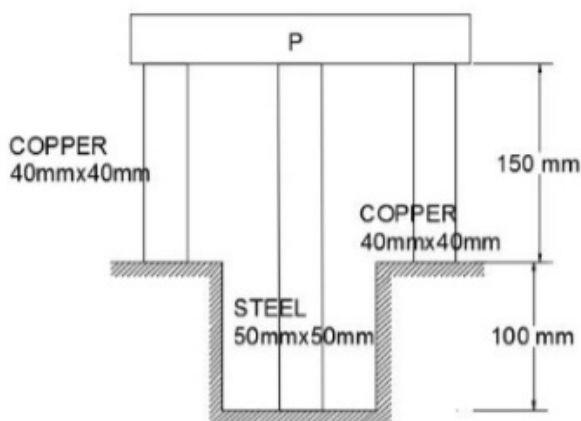

Figure 2b
- 1) Define (4)
- B) A 25 mm diameter brass rod is 750 mm long and subjected to an axial tension of 56 kN. The contraction in diameter and extension in length are found to be 0.0089 mm and 0.95 mm respectively. Determine Poisson's ratio, modulus of elasticity and change in volume of the bar. (8)
- C) Derive an equation for deformation in tapering circular bar subjected to axial load P. (8)
- 2) Derive the relationship between Young's modulus, and Shear modulus of a materials. (8)
- B) Two copper and a steel rod together support a rigid uniform bar of weight P as shown in figure 2b. Determine safe maximum value of P if the stress in steel and copper is not to exceed 120MPa and 60MPa respectively. Assume $E_S = 2 E_C$. (12)